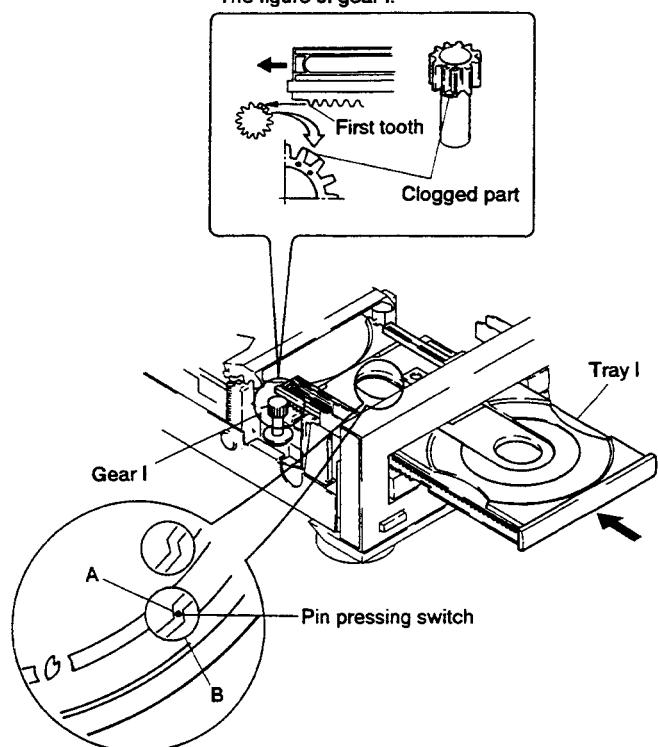

Fig. 2-16
(2) As shown in Fig. 2-16, adjust the first tooth of the tray I to the clogged part of the gear I, then push in the tray I slowly.